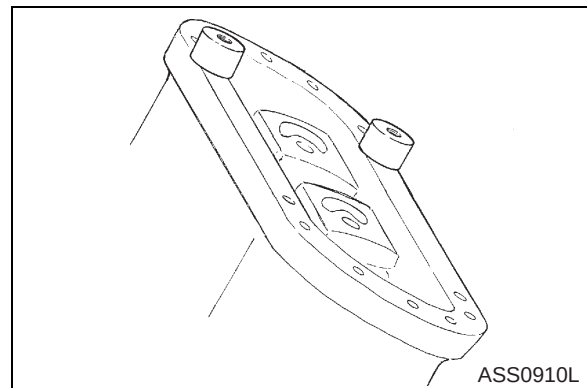

Figure 92
- A. Size 80 - 107 (Figure 92).